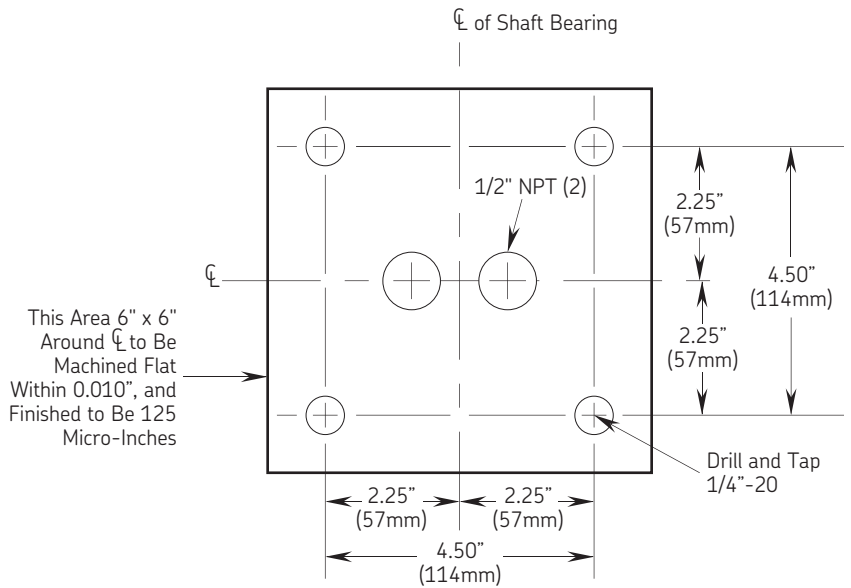

Figure 3-11. Mounting surface requirements.
1. Prepare the mounting surface as shown in Figure 3-11.